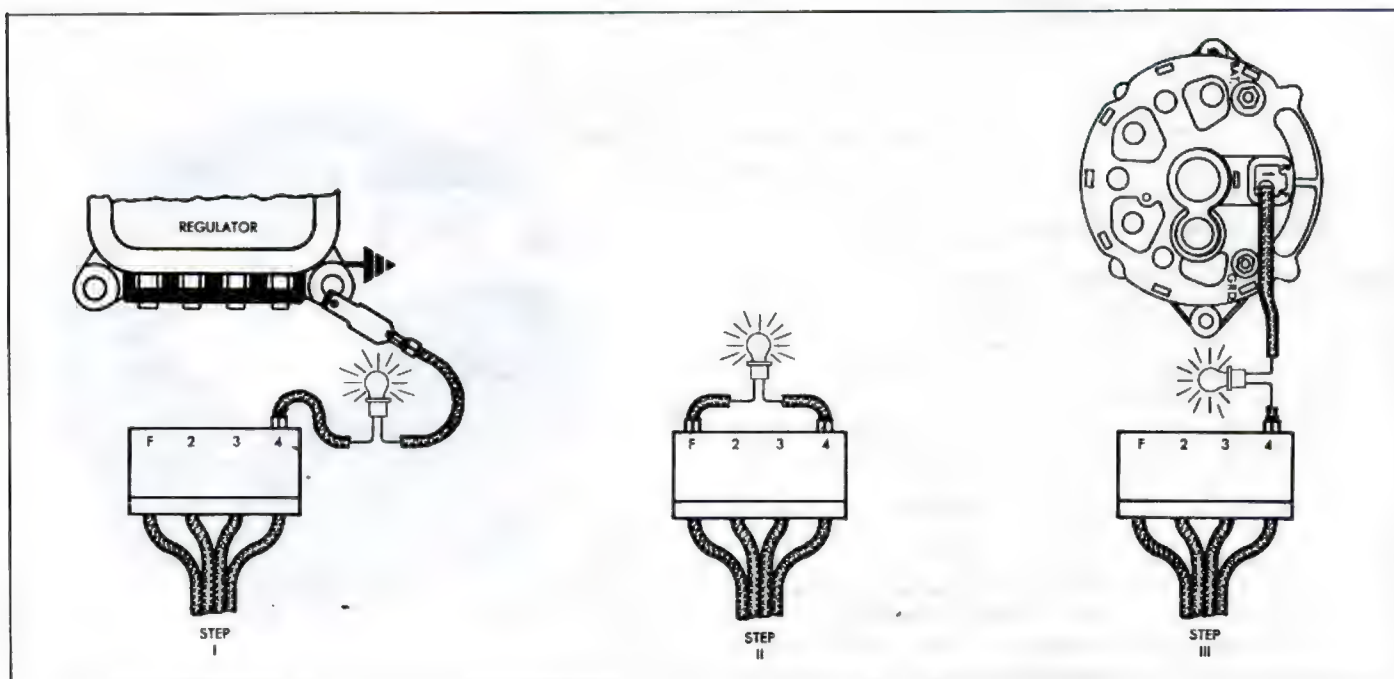

Fig. 8c—Indicator Lamp Circuit Tests
The indicator lamp circuit (fig. 8c) provides initial field excitation (causing lamp to glow). The light is cancelled by closing the field relay which applies battery voltage to both sides of bulb (bulb goes out).
1. Disconnect connector from regulator and connect a jumper lead from connector terminal "4" to ground (fig. 8c, Step 1). Turn ignition switch to "ON" momentarily and note indicator lamp:
2. Disconnect jumper lead at ground end and connect between connect "F" and "4" terminals, (fig. 8c, Step 2) then turn switch to "ON" momentarily and note lamp:
3. Disconnect jumper at connector "F" terminal and connect "F" terminal on Delcotron (fig. 8c, Step 3), then turn switch on momentarily and note lamp: